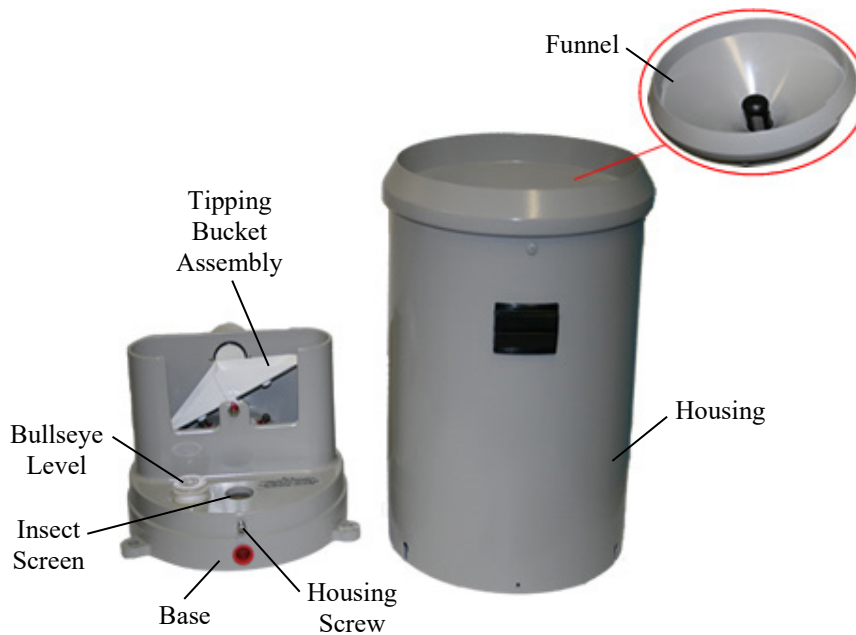
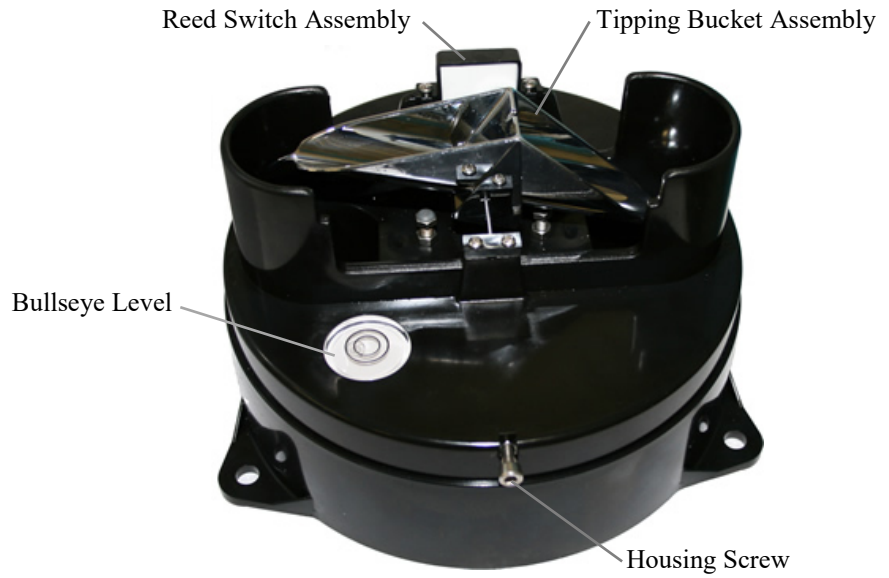

FIGURE 9-1. Main Components of the CS700
FIGURE 9-2. TB4 Base
1. Remove the housing assembly from the base by loosening the three housing screws and lifting the housing upward (FIGURE 9-1, FIGURE 9-2).